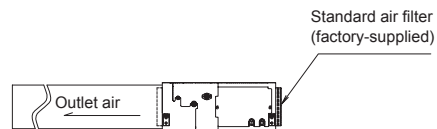
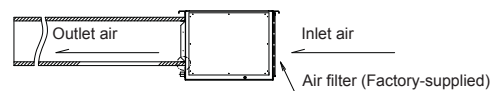

Fig. 1
Fig. 3
- Keep the standard Air Filter in case of no Suction Duct is applied (fig.1) and (fig.3)
- Optionally, if applying Suction Duct and keeping the standard Air Filter in its original location (not recommended), be aware to make a servicing gate onto the Suction Air Duct, as shown in the figure (Fig. 3). Keep the servicing gate properly sealed by aluminium tape.